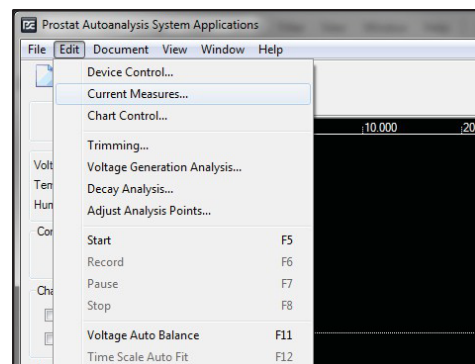

Figure 17: Access Current Measures through the Edit Menu
2. Select **Current Measures** (see Figure 17)